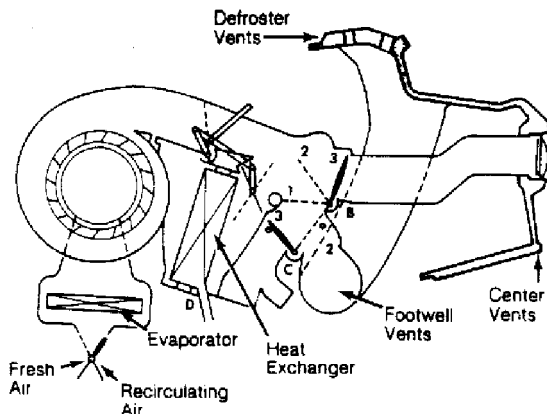

Fig. 10: Air Distribution for Heater System
5) Check voltage between control head terminal "B" and ground. If more than 5 volts, replace control head. If less than 5 volts, check for circuit in wire between control head terminal "B" and programmer terminal "U". If okay, replace programmer. If not okay, repair wire. See Fig. 10.